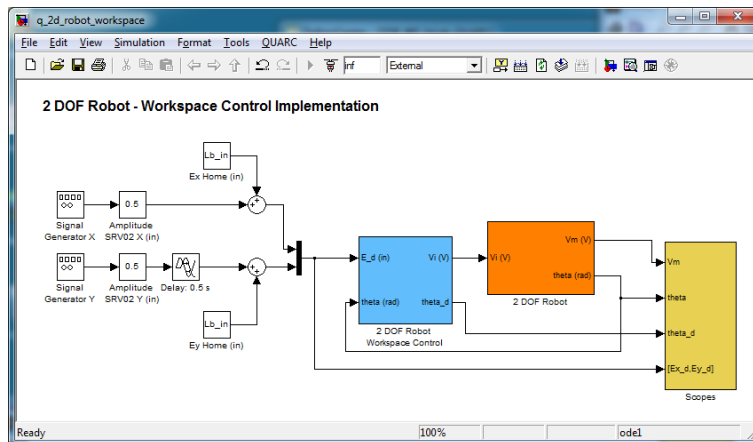

Figure 4.7: Simulink model used to workspace control on 2 DOF Robot device.
The q_2d_robot.workspace Simulink diagram shown in Figure 4.7 is used with QUARC® to implement the workspace control on the 2 DOF Robot system. The 2 DOF Robot subsystem contains QUARC blocks that interface with the DC motor and sensors of the system.
4. Open the `q_2d_robot_workspace.mdl` Simulink diagram, shown in Figure 4.7.